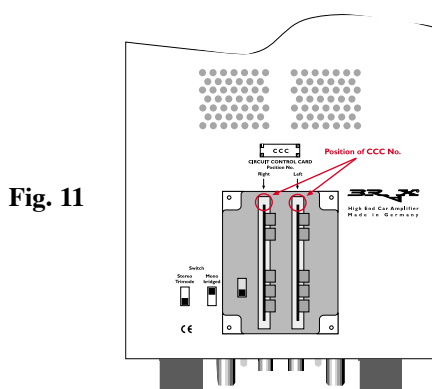

Fig. 11
1. Choose the position number from the CCC list which corresponds to the required function of the amplifier, and insert the card in the base so that the position number on the card is located at the top at the housing cover next to the arrows (see Figs. 11 and 12).